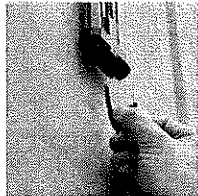

Fig 1
1. Insert the FlagTrax key fully into keyhole in the Locking Cap at the bottom of the PushPull Rod to release the security clip (Fig 1).